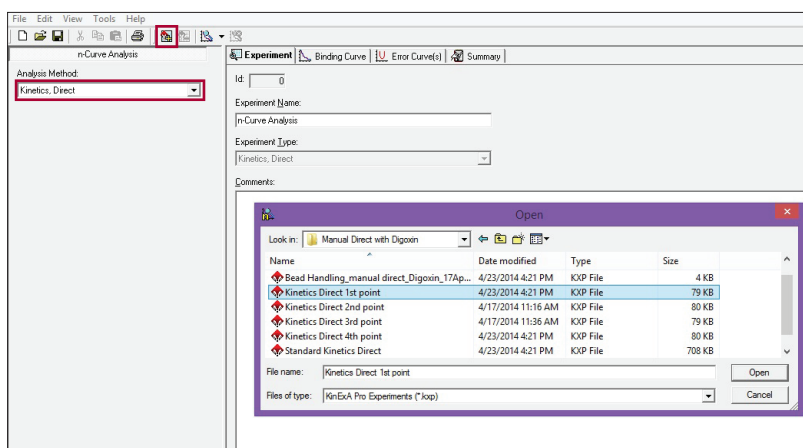

Figure 4A. Adding the first time point to the Kinetics Direct N-curve.
- N-curve (**Figure 4A**). **Add Experiment** can also be found under *Edit* in the tool bar.